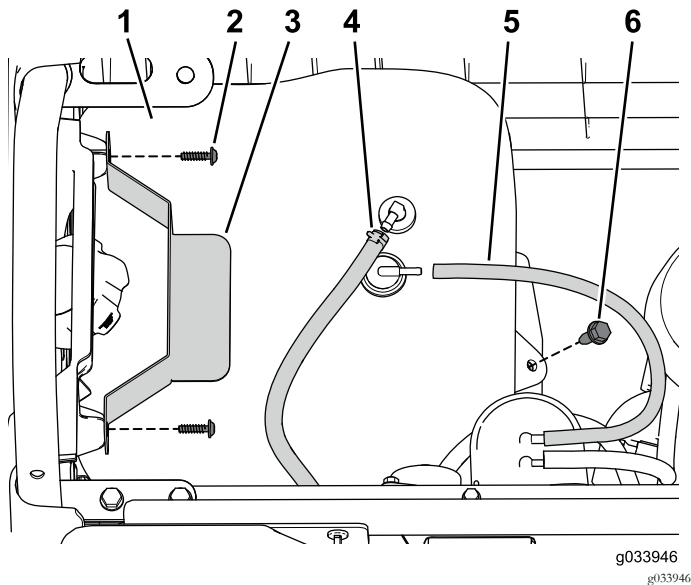

Figure 1
1. Remove the flange bolt securing the fuel tank to the tank tray (Figure 1).
2. Remove the screws that secure the hold-down (Figure 1).
3. Disconnect the vent tube and fuel line from the tank (Figure 1).